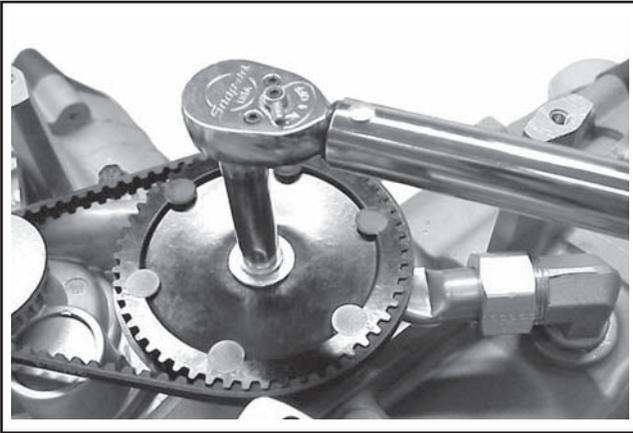

Figure 11-55. Torquing Mounting Screw of Cam Pulley.
11. Check or use a feeler gauge to see that there is at least **3.17 mm (0.125 in.)** clearance between the underside of the pulley, and the hose, tube, and clamps. Remove the pulley and reposition the tube or clamps if required. Install the flat washer and hex flange screw, to secure the pulley in place. Torque the screw to **9.9 N·m (88 in. lb.)**. See Figure 11-55.